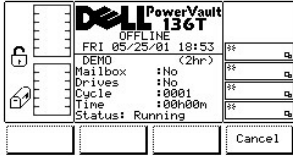

Figure 111. Service > Library > Exercise > Demo Using Time > Execution Dialog
- 1 If the button beneath the **OK** softkey is pressed, the field values are applied and the Demo operation is started. See Figure 111.